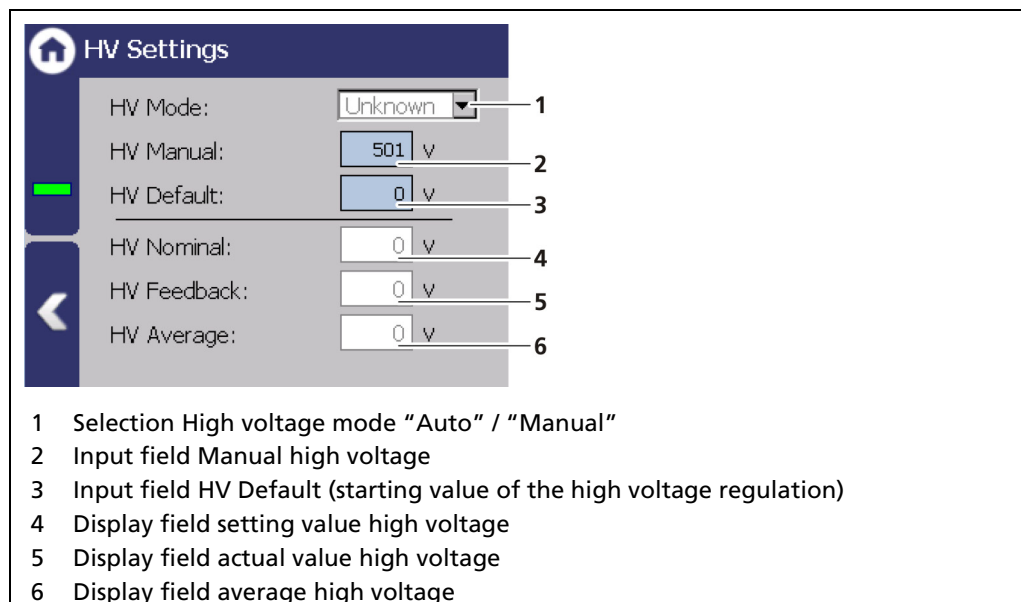

Fig. 67 HV Settings
1. Click on the selection arrow (Fig. 67, item 1) in order to set the desired HV mode (auto or manual).
- MANUAL: The high voltage is maintained at a fixed, user-entered value (Fig. 67, item 2).
2. Click in the input field "HV Default" (Fig. 67, item 3) to open the input field.